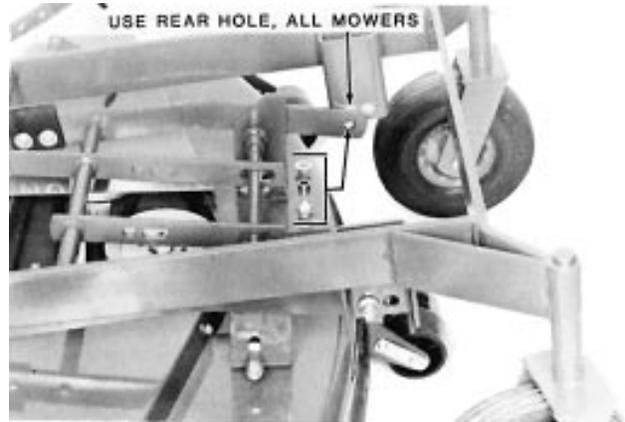

Figure 13
24. Attach the front of the mower to the main frame, using the hardware that held the hitch shaft (Fig. 13).